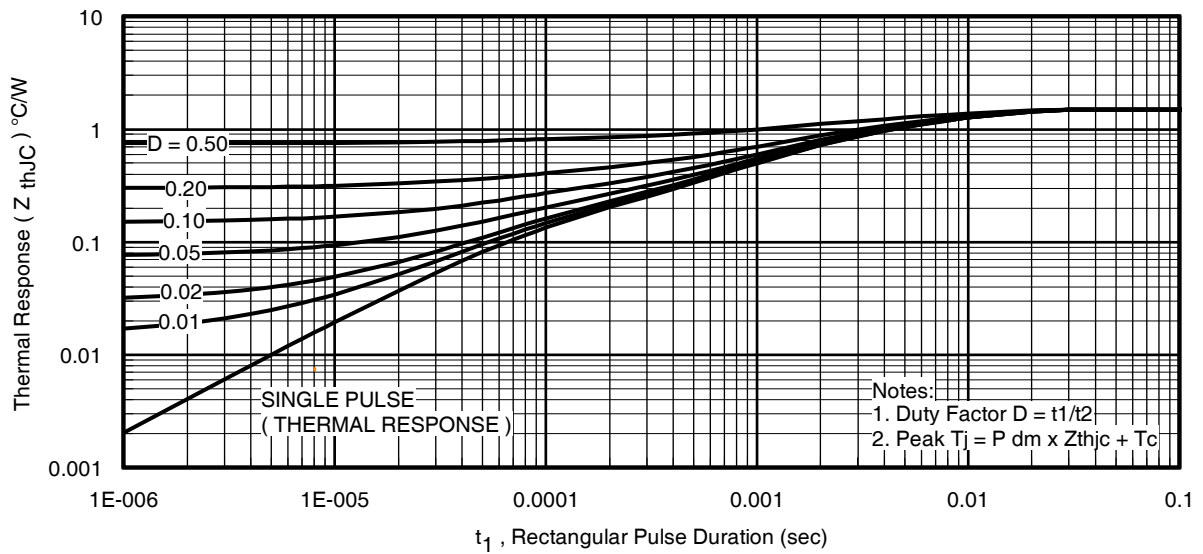

Fig 11. Maximum Effective Transient Thermal Impedance, Junction-to-Case
- ① Repetitive rating; pulse width limited by max. junction temperature. (See fig. 11).
- ② Limited by T_{Jmax} , starting $T_J = 25^\circ\text{C}$, $L = 8.1\text{mH}$
$Z_{thJC}(D, t_{av})$ = Transient thermal resistance, see figure 11)